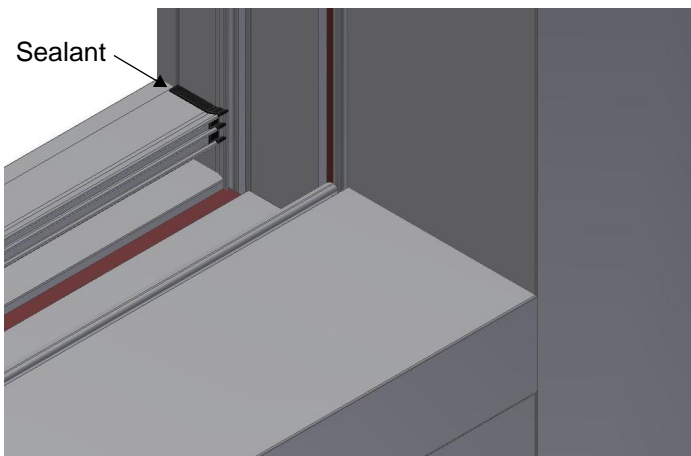

Figure 11: Apply sealant to the intersection of the gaskets.
- Apply sealant at the intersection to marry the vertical and horizontal glazing gaskets as shown in Figure 11. Tool all sealant to present a neat, clean appearance.